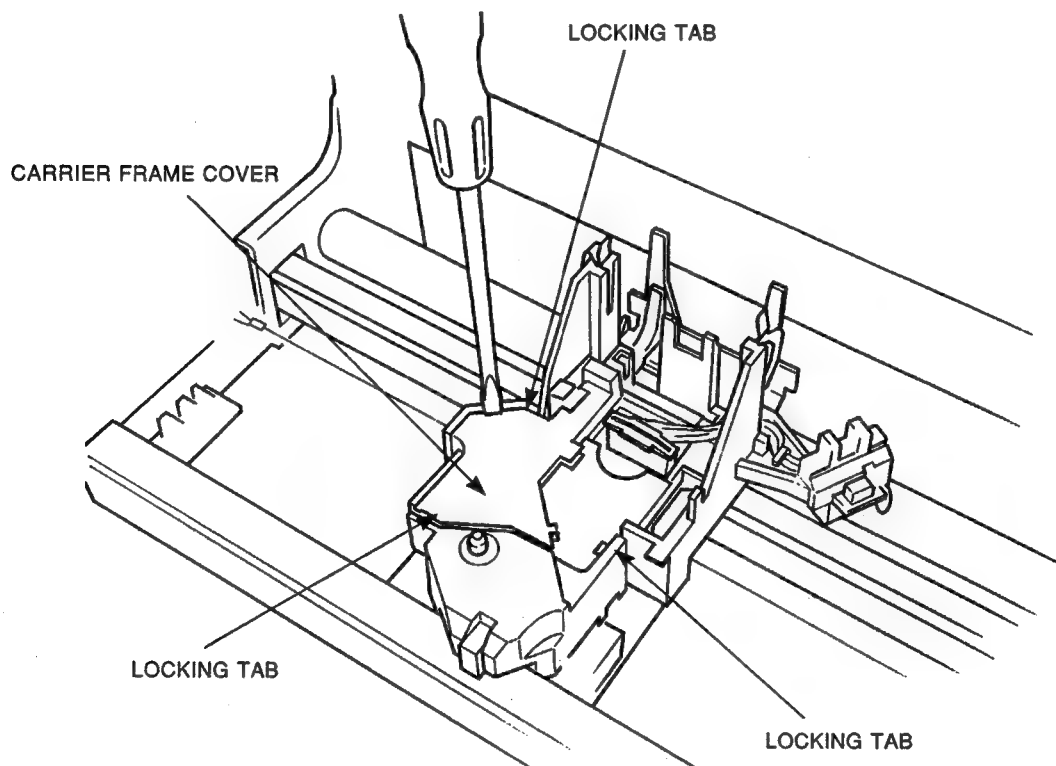

Figure 3-14 Carrier Frame Cover
1. With a screwdriver blade, unlock the three locking tabs and lift the carrier frame cover. (see Figure 3-14).